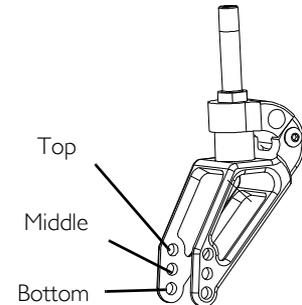

FIGURE 12 Front Seat-to-floor Height Adjustment
1. Refer to FIGURE 12 and the charts on the following pages to determine available front seat-to-floor heights for each wheelchair frame size.